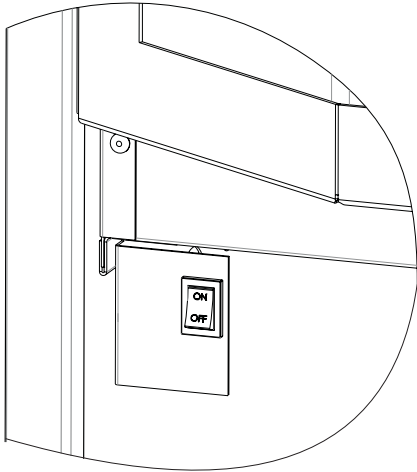

Figure 53
- A. Turn on the main electrical power to the heater and turn the main burner switch to the ON position. See Figure 53. Verify power is on by checking if there is power to the circuit board. If the unit has power, the power light will be illuminated.